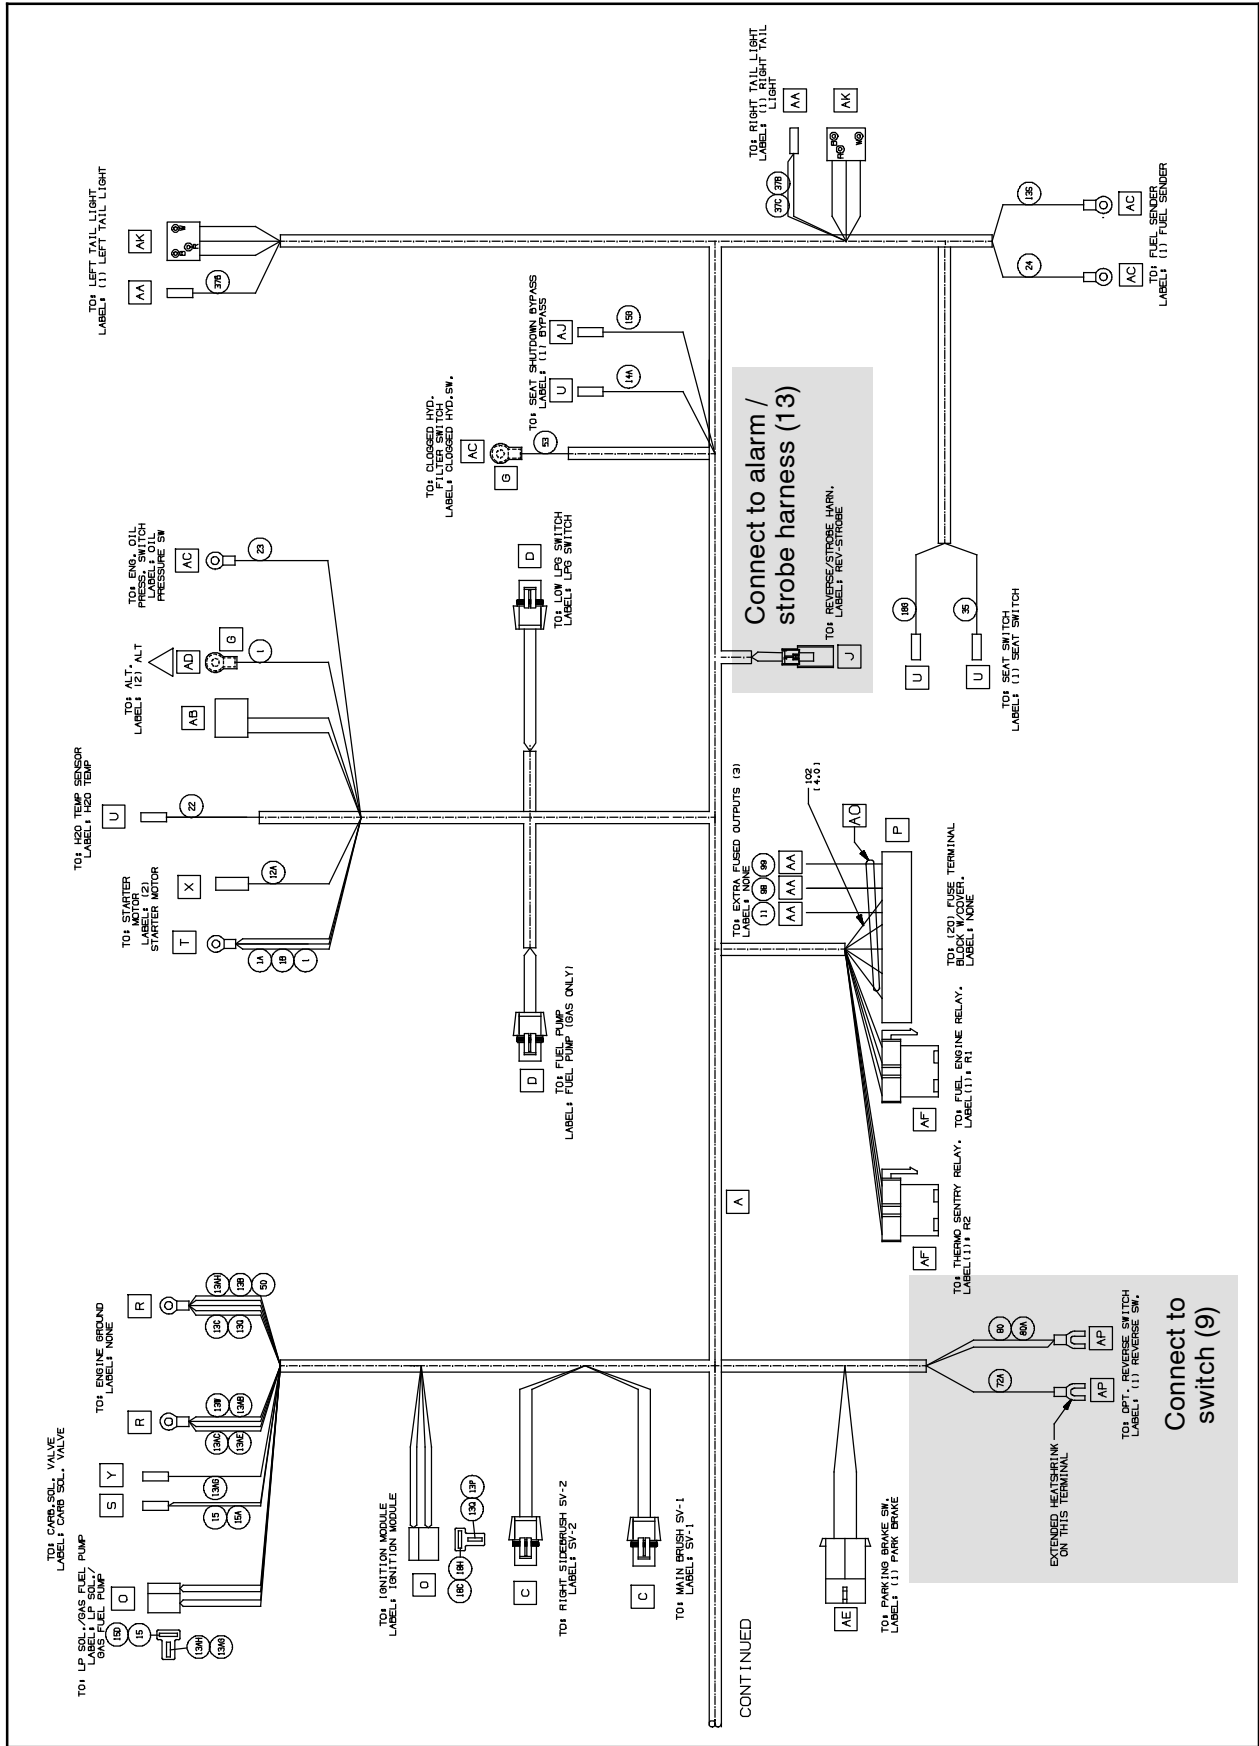

FIG. 11
17. Connect the alarm / strobe harness (13) to the main wire harness. (Fig. 7 / Fig. 11)
19. Connect the main wire harness to the switch (9). (Fig. 10 / Fig. 11)